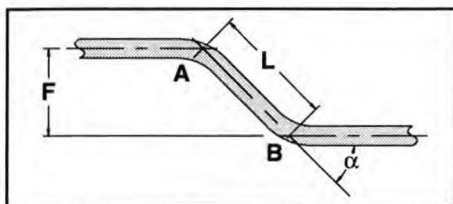

Figure 19 Making offset bends.
Step 1 First, determine the total amount of offset required. (dimension "F" in the diagram, Figure 19)
Step 4 Determine where you want the offset bend of the tube to start, and make a reference mark (A). Now measure off the "L" dimension (determined in Step 2, example 3-17/32") starting from the reference mark and make a second mark (B). You are now ready to make the bends.
Step 5 Align mark (A) with reference mark 45° on bender shoe (measurement end to the left) and proceed with first bend. Then align (B) with 45° mark and make second bend in proper direction (measurement end to the left). Follow previous detailed instructions for making 45° bends in one plane.